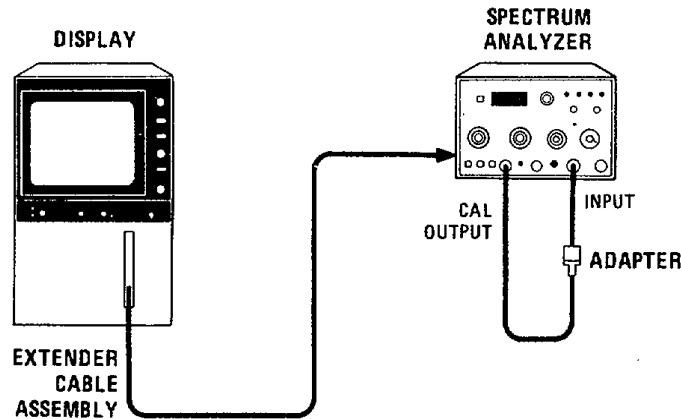

Figure 5-16. 1-dB Offset Adjustment Test Setup
2. Connect equipment as shown in Figure 5-16.